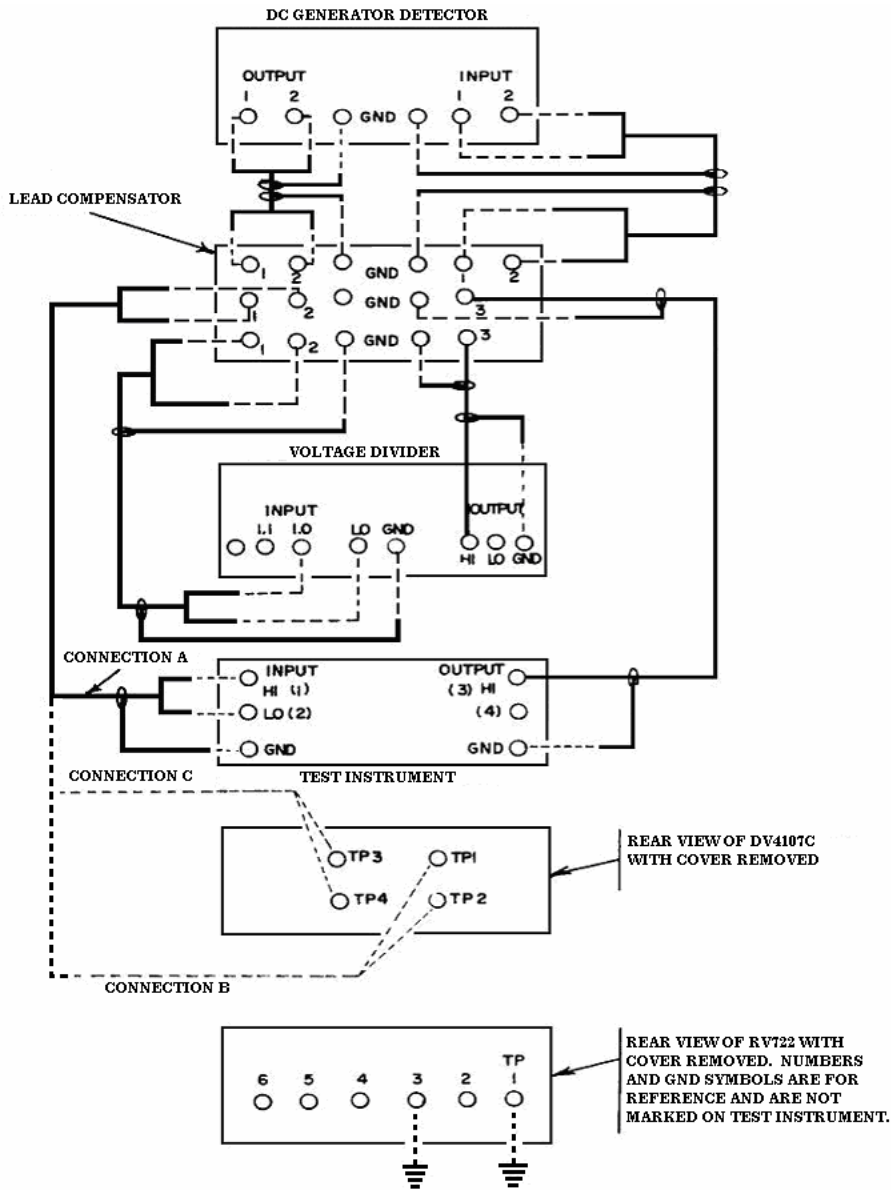

Figure 1. Decade linearity - equipment setup.
(1) Connect equipment as shown in figure 1, connection A.
- (11) Connect equipment as shown in figure 1, connection B.
- (12) Adjust dc generator detector controls for a 10 V dc output, using multimeter.
(19) Connect equipment as shown in figure 1, connection C.
(20) Turn TI decade dials to **.009999X** and voltage divider decade dials to .999999 TEN.
(21) Adjust lead compensator BALANCE 1 control for null on dc generator detector meter.
(22) Repeat (5) through (7) above.
(23) Turn TI decade dials to **.0099999** and voltage divider decade dials to .9999900.
(24) Adjust voltage divider decade dials for a null indication on dc generator detector meter. Voltage divider decade dials will indicate between .9998900 and 1.0000900.
(25) Repeat technique of (23) and (24) above, using settings listed in table 5. Voltage divider decade dials will indicate within limits specified.